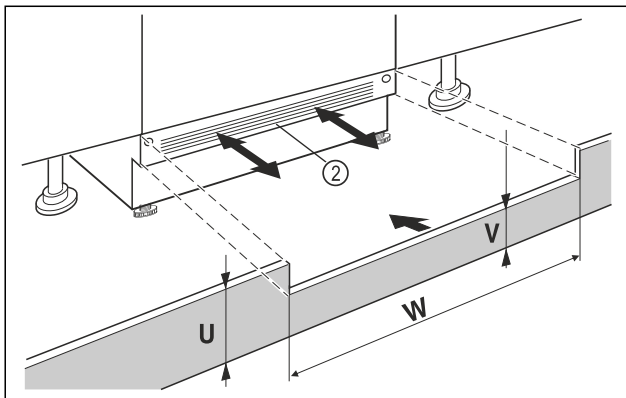

Fig. 96 Example illustration
- Put on the appliance base cover Fig. 96 (2) but do not fix it in place yet.
- If the base panel is visible Fig. 96 (2), pull it forwards so that the front edge of the ventilation grille and the unit base panel are level.
- If the base panel is concealed Fig. 96 (2), push it all the way back.
- Ensure that the ventilation slots are completely free: If necessary, cut the height of the unit base panel Fig. 96 (U) to size!
- Adjust the web height Fig. 96 (V) under the appliance base panel Fig. 96 (2) along the niche width Fig. 96 (W).